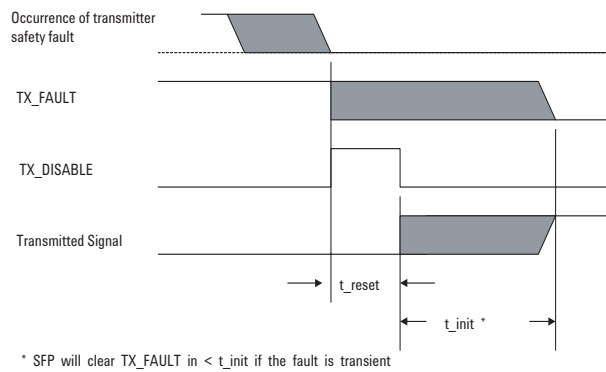

Figure 8. Successful recovery from transient safety fault condition
This can be (1) failure of the laser driver or (2) end-of-life of the laser. Under these conditions, the laser will be deactivated within the assert time. TX_FAULT also requires a 4.7k-10k ohm pull-up resistor external to the module, i.e. in the host system Host_Vcc, as shown in Figure 13. The pull-up voltage is between 2.0 V and $V_{ccT}(V_{ccR}) + 0.3$ V. Conditions (1) and (2) are latched, and for diagnostic purposes only, may be reset by toggling TX_DISABLE high for at least t_{reset} . See Table 11 and Figure 8.